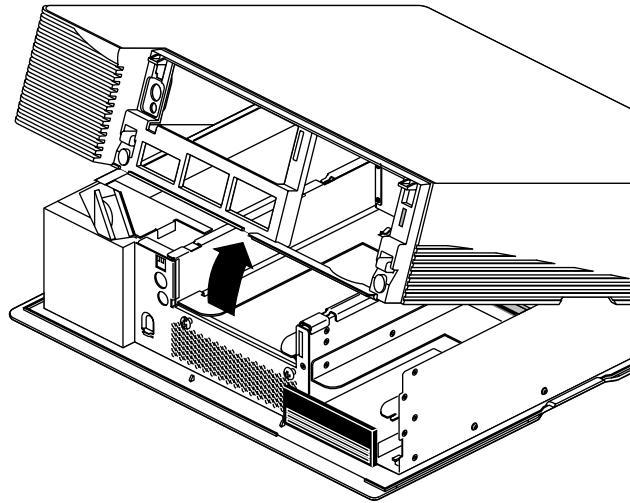

Figure 2-7 Removing the Top Cover
- Pull up on the cover and rotate it back and away from the chassis, as shown in Figure 2-7.